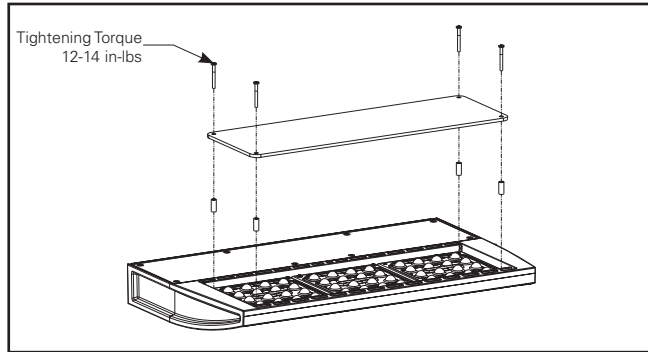

Figure 3.
1. Loosen and remove the existing (4) 8-32 screws on the face of the fixture (Figure 3).
2. Align (4) 7/8" long spacers with existing holes (4).
3. Use (4) 8-32 x 1-1/2" screws to secure vandal shield on top of fixture.